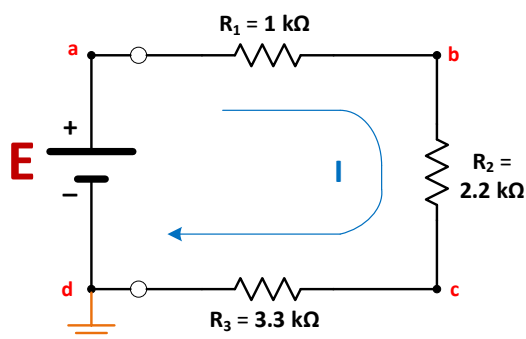

Figure 2.0a: Circuit reference node at “d”
- (i) For the circuit shown in **Figure 2.0a**, the input D.C. source voltage, $E = 15 \text{ V}$ and node “**d**” is selected as the *reference node* connected to the circuit ground, $V_d = 0 \text{ V}$. Calculate the current, I and the voltage at node “**a**” ($=V_a$), node “**b**” ($=V_b$), and node “**c**” ($=V_c$) with respect to the ground *reference node*. From these node voltages, calculate the resistor voltages, V_{ab} , V_{bc} , and V_{cd} across resistors R_1 , R_2 and R_3 , respectively. Record all the results in **Table 2.0**.
- (ii) Construct the circuit of **Figure 2.0a** in MultiSIM. With node “**d**” as the *reference node*, measure the current, I , the node voltages V_a , V_b and V_c , and the voltages across R_1 ($=V_{ab}$), R_2 ($=V_{bc}$), and R_3 ($=V_{cd}$), respectively. Record all the results in **Table 2.0**.
1. Implement the circuit in **Figure 2.0a** on your breadboard using the resistor values as shown. Set the input D.C. source, **E** = **15V** on the power-supply and select node “**d**” as a *reference* node to which “COM” terminal of the DMM in the Voltmeter setting is connected to allow for direct measurement of the *unreferenced* voltage nodes.